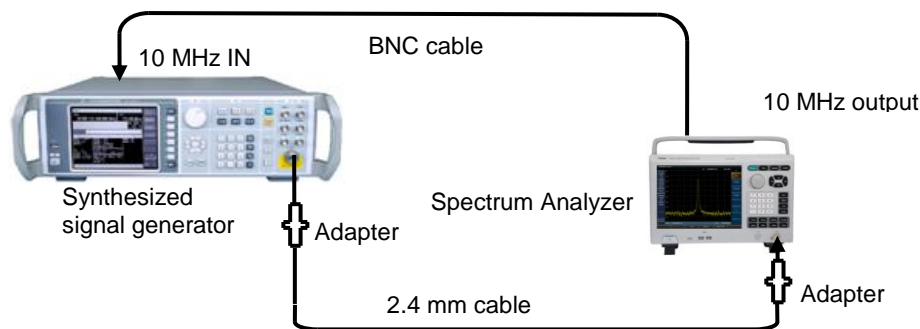

Fig 11-6 RBW Switching Uncertainty Testing Setup
1) Connect the test device as shown in Fig 11-6. The spectrum analyzer provides a reference frequency for the synthesized signal generator 1464C.